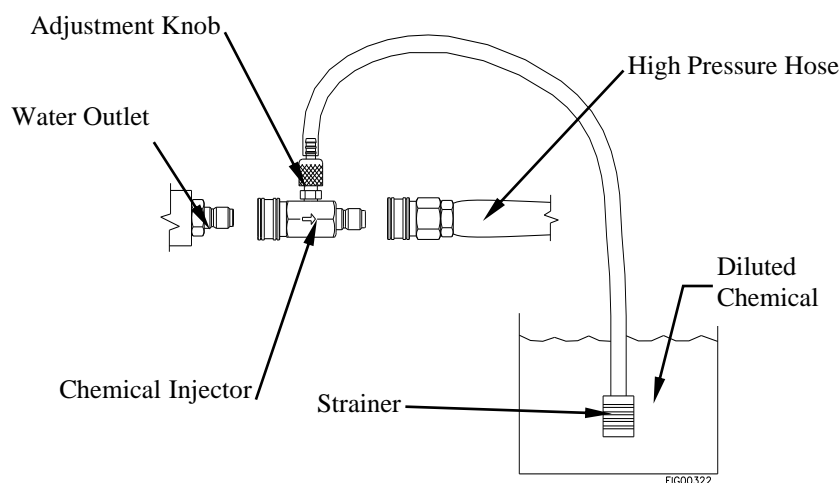

Figure 10
3. Snap the quick couple chemical injector onto the water outlet, then snap the high pressure hose onto the chemical injector. See Figure 10.
4. Submerge the suction strainer connected to the braided chemical hose into a bucket containing the chemical solution. See Figure 10.